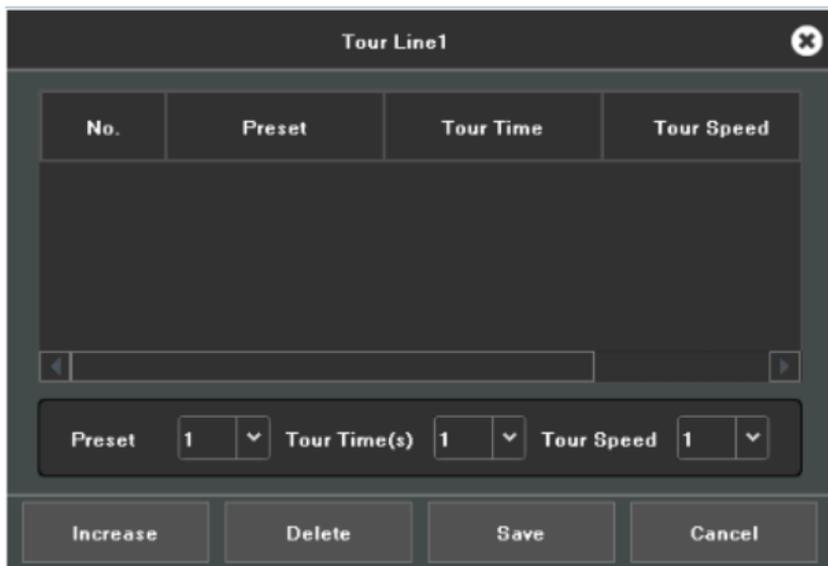

Figure 5.2 Tour Line
- 2) Click on the  button to add key points for cruise, as shown in Figure 5.2.